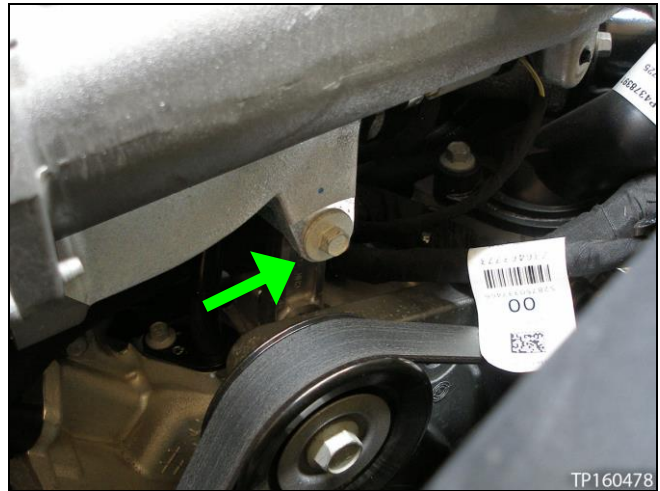

Figure 85
29. Install the air intake connection bolt (see Figure 85).